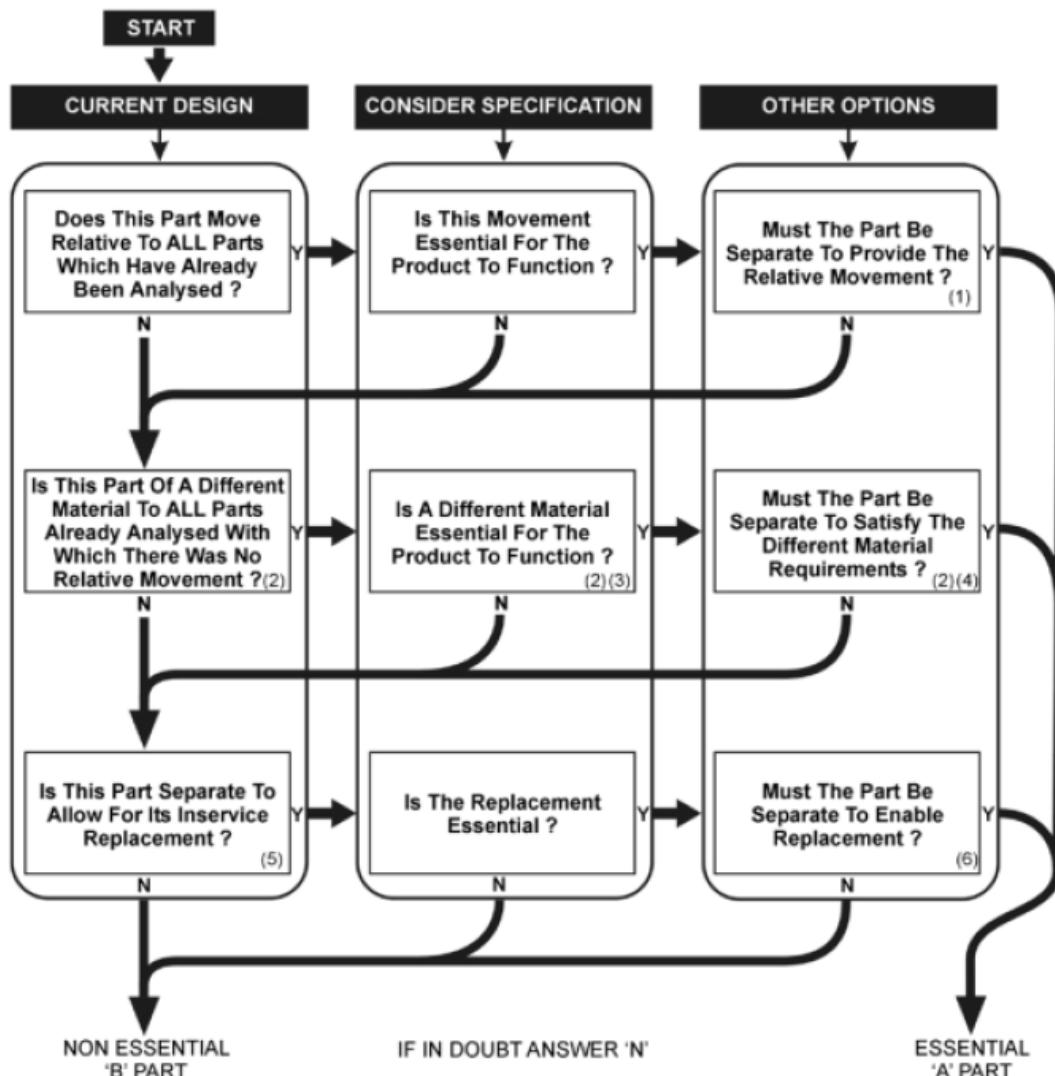

Figure 2. The functional analysis chart
All parts were studied individually. The parts were named, and their purposes were defined. The possible problems with automated assembly were identified and noted along with options to improve the design. A functional (A/B) analysis was made according to the chart shown in figure 2 for the parts. This analysis defined if the parts were deemed necessary (A) or unnecessary (B).